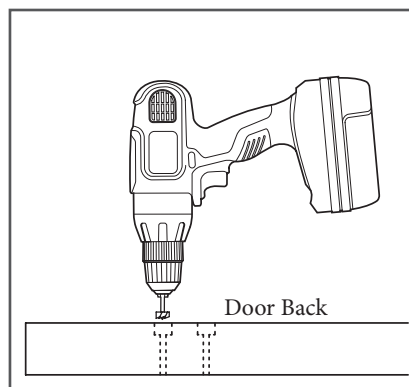

Figure 4
7. Turn the door over. Using a 1-1/8" Forstner bit*, drill a 7/16" deep hole into each pilot hole (Figure 4).